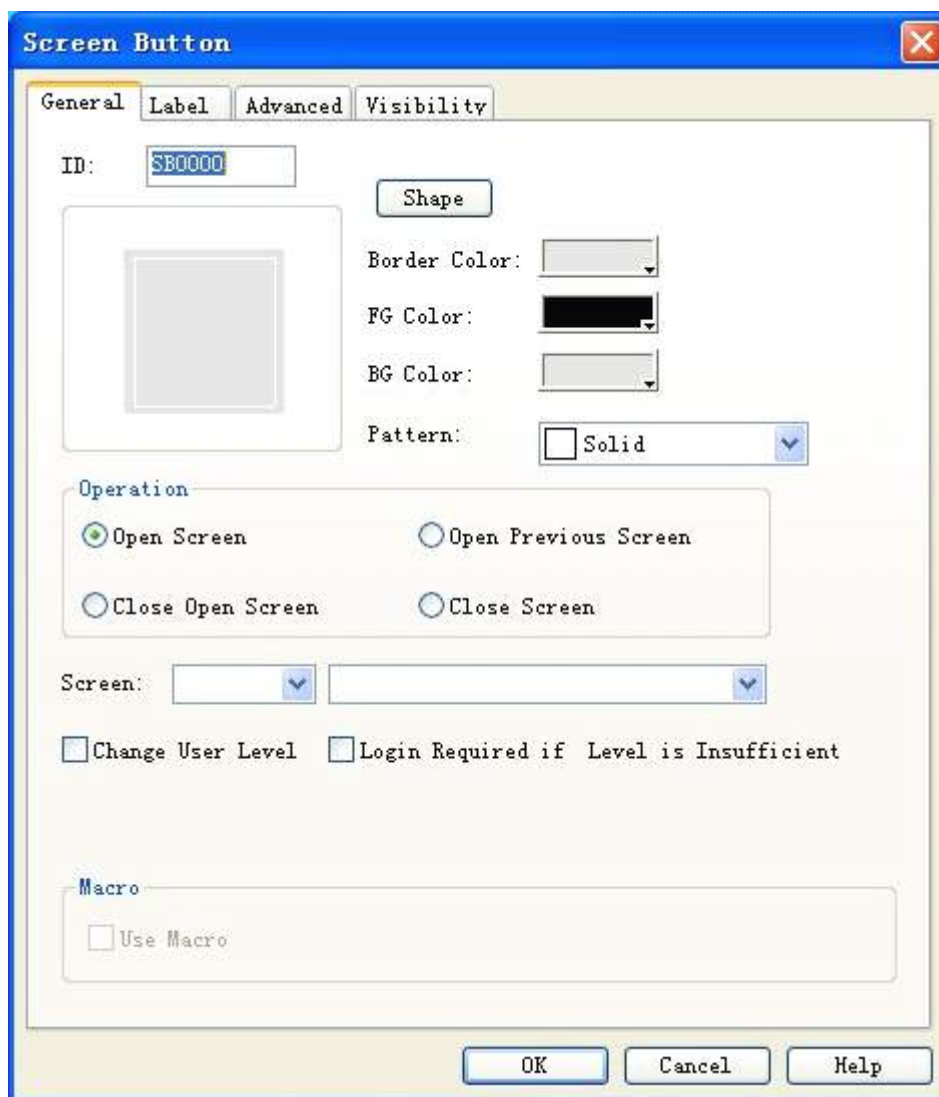

Figure 4-61: Screen Button dialog
- Click Screen Button icon  in the tool bar, and then a dialog as shown in Figure 4-61 will pop up.